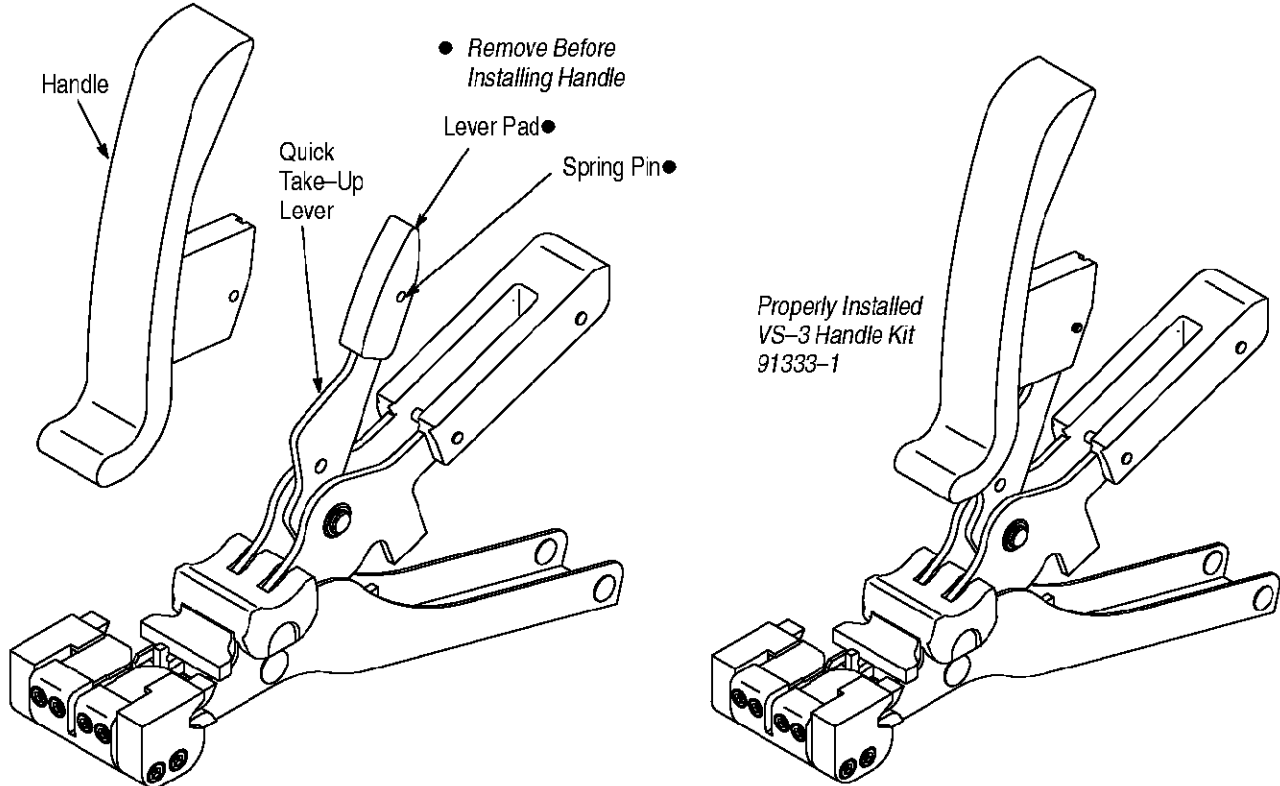

Figure 2
1. Position the Handle over the Quick Take-Up Lever as shown in Figure 2.